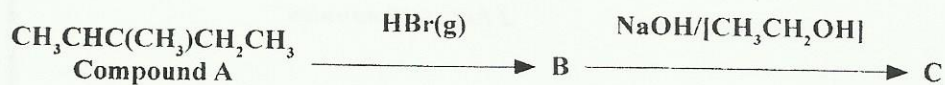

Figure 1. Reaction sequence
1. Figure 1 shows the reaction sequence of an organic compound, A, producing compounds B and C.